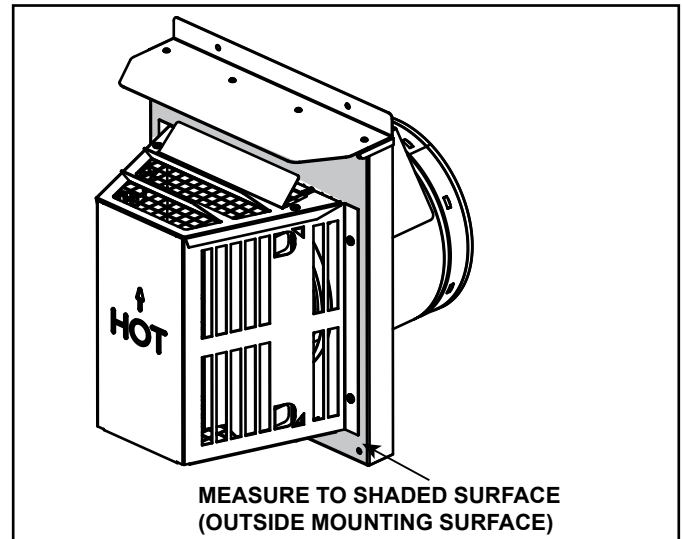

Figure 4.10 Measure to Outside Mounting Surface
- Horizontal terminations are measured to the outside mounting surface (flange of termination cap). See Figure 4.10.